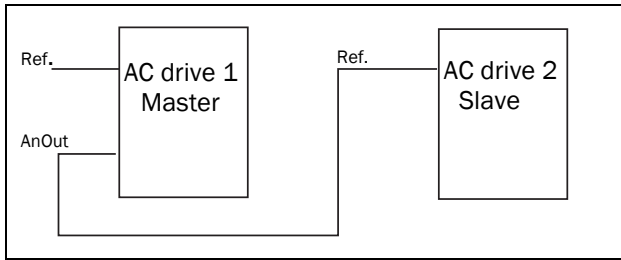

Fig. 143
- a reference signal for the next AC drive in a Master/Slave configuration (see Fig. 143).